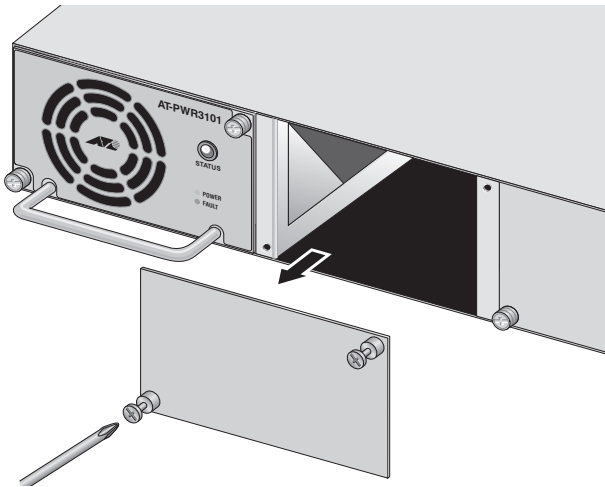

Figure 15. Removing a Blank Panel from an Expansion Slot
3. Using a # 1 Phillips screwdriver, remove the blank panel from the slot chosen for the new AT-PWR3101 module (see Figure 15).